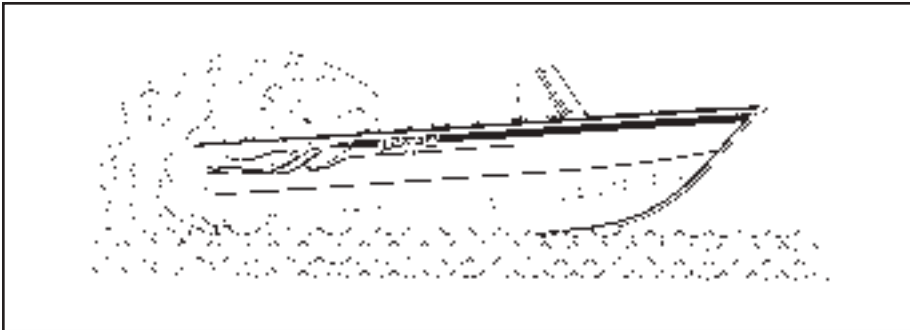

FIGURE 2-7 WHILE UNDERWAY (BACKDRAFTING)
**Backdrafting!** Under certain conditions, moving air currents can direct poisonous carbon monoxide fumes into boat (Figure 2-7). These fumes can accumulate to dangerous levels without proper airflow. Provide adequate ventilation, redistribute the load or bring boat out of high bow angle.
**Exhaust Fumes!** Hull exhaust from your boat can cause excessive accumulation of poisonous carbon monoxide gas within cockpit area when using protective weather coverings while underway (Figure 2-7) or while stationary. Provide adequate ventilation when the canvas top, side curtains, and/or back curtains are in their closed protective positions.